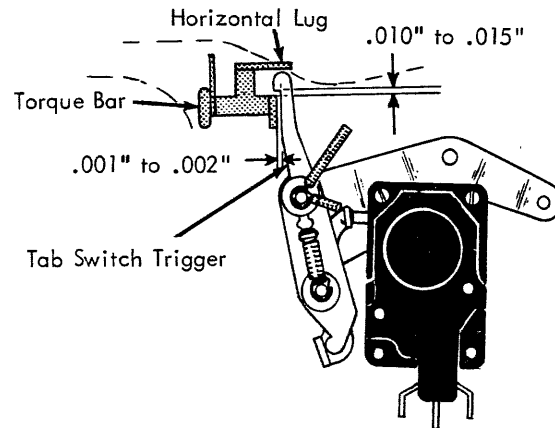

FIGURE 173. Tab Interlock Switch (Late)
NOTE: On machines with the new style (Fig. 173) interlock contact form the upstop up out of the way.
13. Tab Interlock Switch (Late) (Fig. 173) -
- a. Tab Switch Trigger - with the tab torque bar in the rest position, form the horizontal lug on the left end of the tab torque bar, so that .010\" to .015\" exists between the tab switch trigger and its latching surface (Fig. 173).
2. Front to Rear - so a .001\" to .002\" clearance (Fig. 173) exists between the tab switch trigger and the rear edge of the tab torque bar extension. This clearance insures that the tab interlock switch is not partially activated in the rest position.